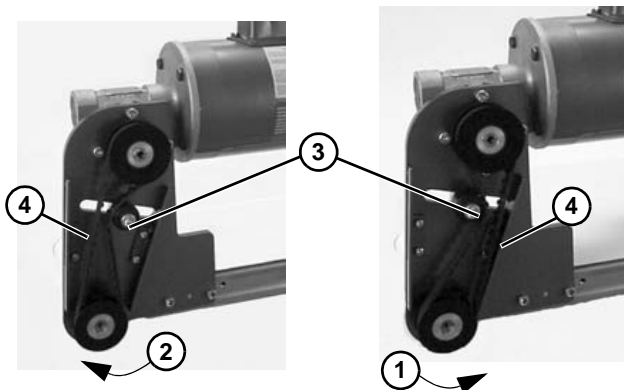

Figure 19
9. Depending on conveyor belt travel (direction 1 or 2 on Figure 19), locate timing belt tensioner (Figure 19, item 3) as shown. Tension timing belt to obtain 0.125" (3 mm) deflection for 1.0 lb (456 grams) of force at timing belt mid-point (Figure 19, item 4). Tighten tensioner screw to 103 in-lb (12 N-m).
3. Depending on conveyor belt travel (direction 1 or 2 on Figure 19), locate timing belt tensioner (Figure 19, item 3) as shown. Tension timing belt to obtain 0.125" (3 mm) deflection for 1.0 lb (456 grams) of force at timing belt mid-point (Figure 19, item 4). Tighten tensioner screw to 103 in-lb (12 Nm).
5. Depending on conveyor belt travel (direction 1 or 2 on Figure 19), locate timing belt tensioner (Figure 19, item 3) as shown. Tension timing belt to obtain 0.125" (3 mm) deflection for 1.0 lb (456 grams) of force at timing belt mid-point (Figure 19, item 4). Tighten tensioner screw to 103 in-lb (12 N-m).